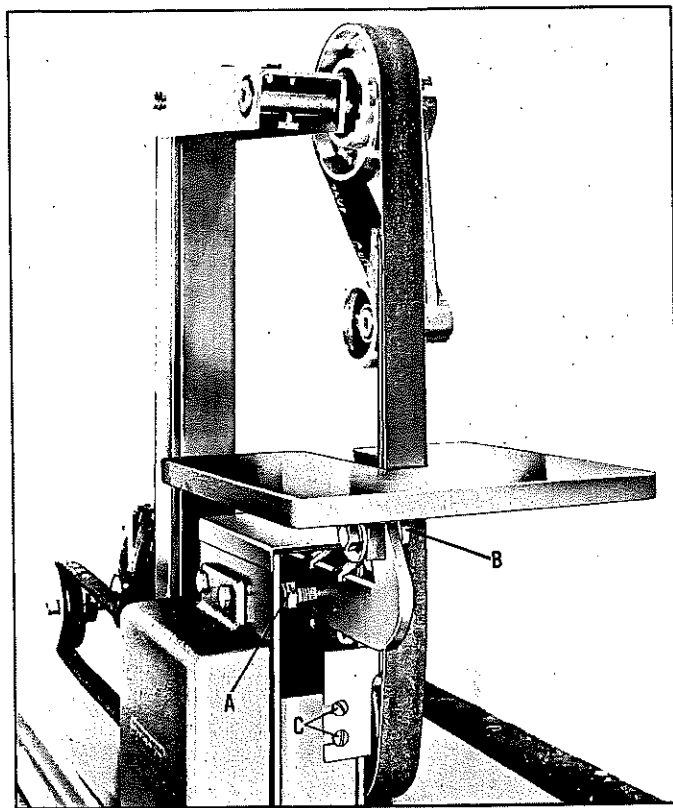

Fig. 6.
The table of your Sander/Grinder can be moved in or out, by loosening Lock Screw (A) Fig. 6, and sliding the table in or out until the desired position is obtained. Then tighten Lock Screw (A). To remove the table, loosen lock screw (A) Fig. 6, and pull the table straight out.
To tilt the table, loosen nut (B) Fig. 6, tilt the table to the desired angle, and tighten nut (B). The table will tilt from the usual horizontal position to a 10 degree back or 90 degree forward angle, permitting a wide range of beveling.
When using your machine for "strapping" or other special operations, the platen should be removed in order to have the Abrasive Belt loose. To remove the platen, loosen the two screws (C) Fig. 6, and remove the platen from the machine.